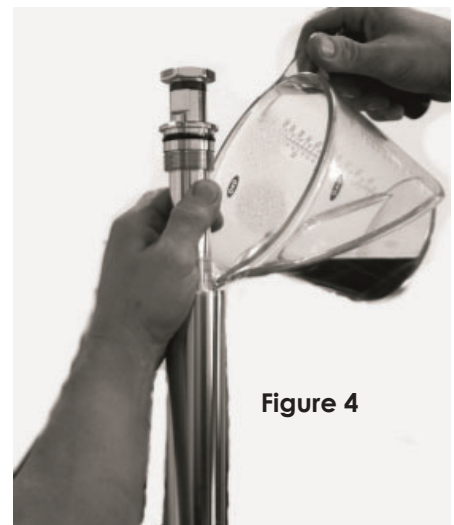

Figure 4
- Pour 5 ounces of 10 wt. fluid in each fork, pausing to stroke the assembly to get the fluid into the outer fork slider. Failure to do this will cause the required amount of fluid to overflow (see figure 4). This fluid is just to lubricate moving parts and has no effect on the actual damping action of the sealed Monotube cartridge fork insert.